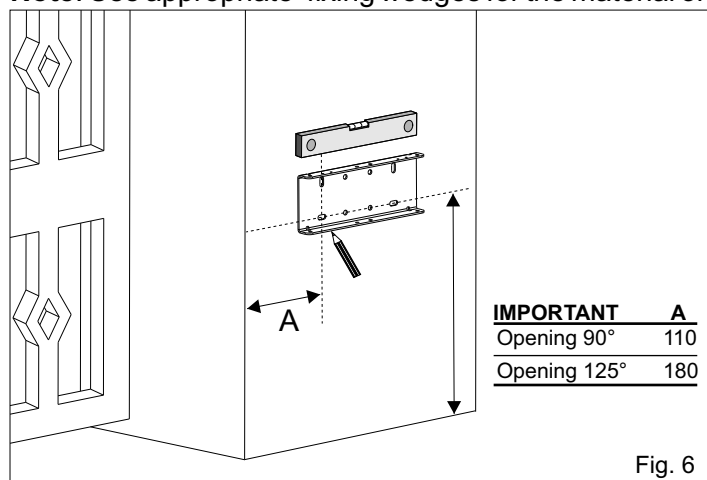

Fig. 6
- Place the anchor plate on the pillar and define the horizontal position "A" depending on the maximum opening to be performed, using as reference the table (Fig. 6).